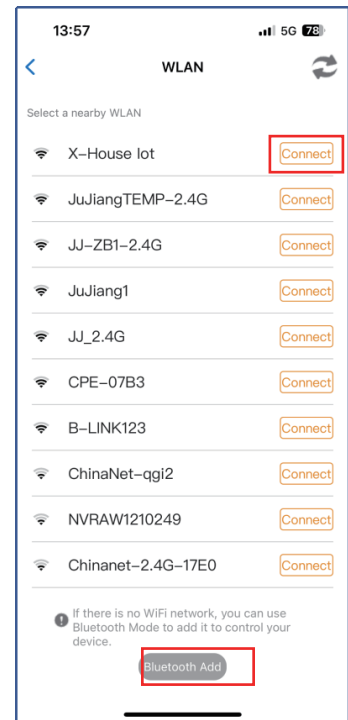

Fig 3
Step 2. Select the Wi-Fi, click the “Connect” and enter the password.(Fig 3) (If there hasn’t Wi-Fi can be connected, the user also can select the “ Bluetooth Add ” and use the Bluetooth function to control the gate nearly. Please follow the step 4).
Step 4: Bluetooth Add: When using Bluetooth mode control, the mobile app must be close to the device within Bluetooth range to connect and control, and only one user's phone can be connected at a time. (Fig. 3 and 4).